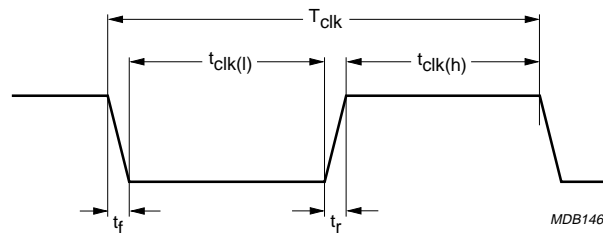

Fig 7. Aud\_clk characteristics
- aud\_clk: audio clock reference; can be  $256/384/512/768 \times f_s$  ( $f_s = 44.1$  to  $48$  kHz); see Figure 7 and Table 4